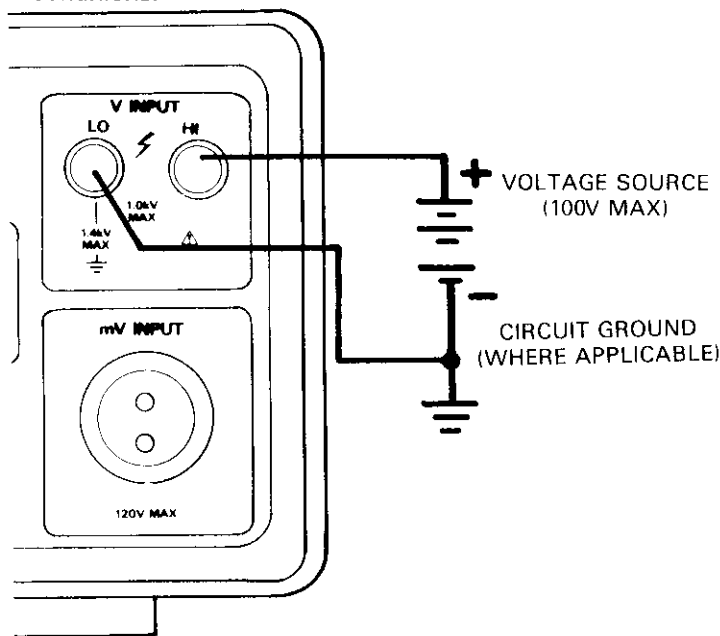

Figure 2-4. Basic Voltage Measurements
4. Connect the source to be measured to the V INPUT terminals as shown in Figure 2-4. Note that circuit ground is normally connected to the LO terminal, while the HI terminal should be connected to the point to be measured.